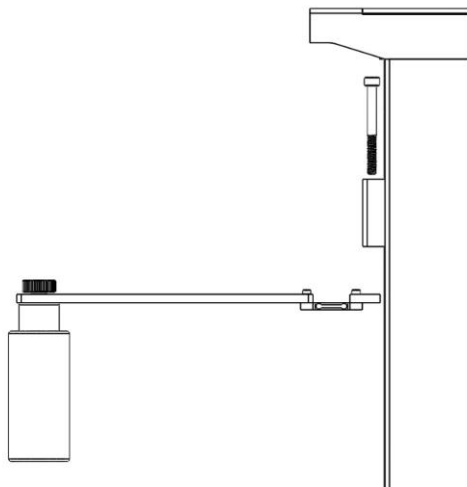

Figure 7: Assembly of Load Cell Extension to Load Cell
7. Attach the load cell extension to the load cell with the remaining $\frac{3}{4}$ " thumbscrew as shown in Figure 7.